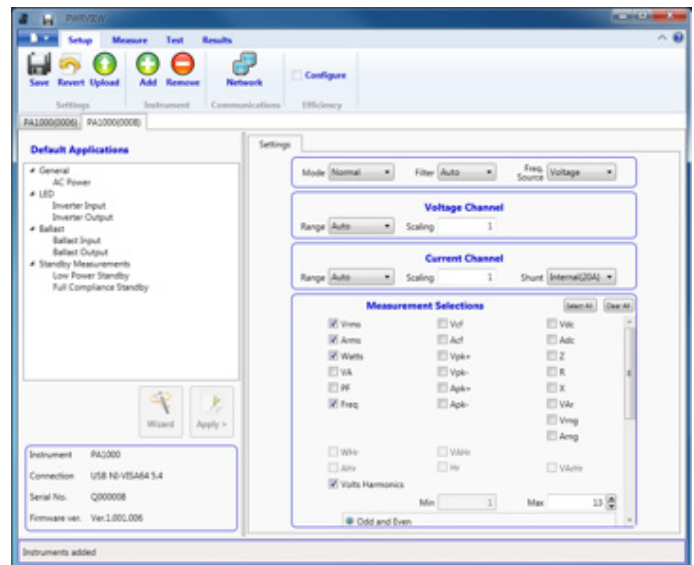

Figure 14. Adding two PA1000 simultaneously.
- Once added, PWRVIEW will display two tabs for two Power Analyzers connected as shown in Figure 14.